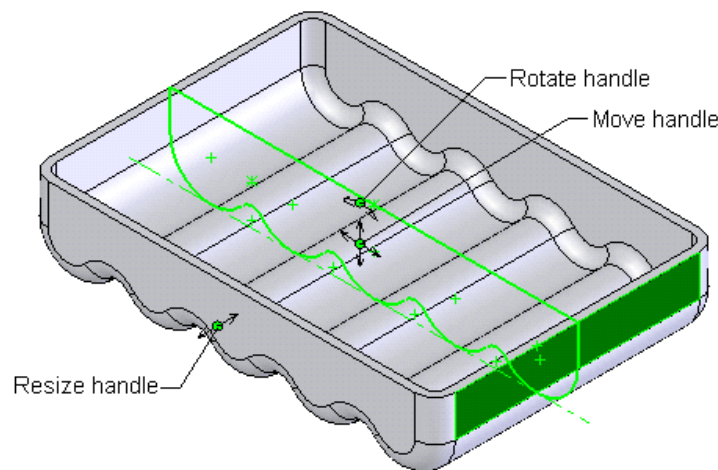

Figure 8-45 Editing handles for editing the base feature
- Dynamically modify the model, refer to Figures 8-45 through 8-47.
2. Select the right planar face of the base feature from the drawing area. The selected face will be highlighted in green. The sketch of the selected feature is also displayed in the drawing area along with various editing handles as shown in Figure 8-45.